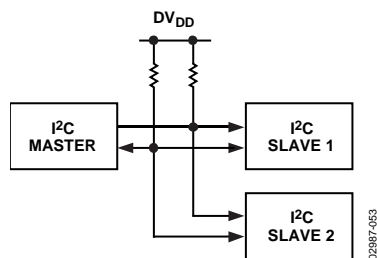

Figure 64. Typical I2C System
- An I2C master can communicate with multiple slave devices. Because each slave device has a unique 7-bit address, single master/slave relationships can exist at all times even in a multislave environment (Figure 64).